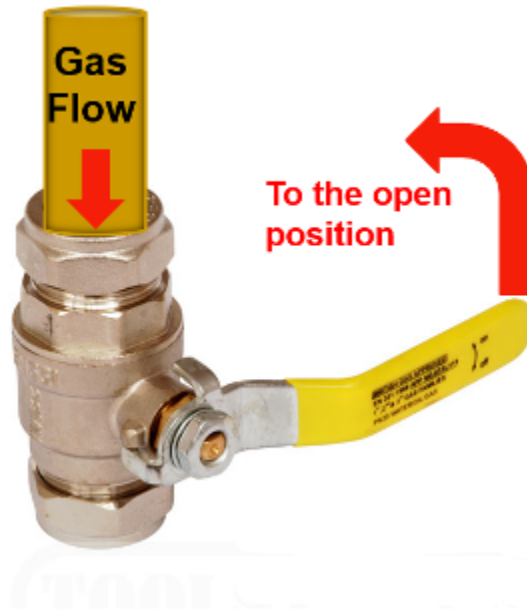

Figure 2. Ball valve fail safe position
fail-safe position (Figure 2). Fail safe means that the valve is installed so that should the packing become loose or the valve arm be unintentionally moved, the arm will move to the close position. Installation upside down is not recommended because it can cause dirt to accumulate by the stem packing.
- Figure 2. “Ball valve fail safe position” by Camosun College is licensed under a CC BY-NC-SA licence (<https://creativecommons.org/licenses/by-nc-sa/4.0/deed.en>).